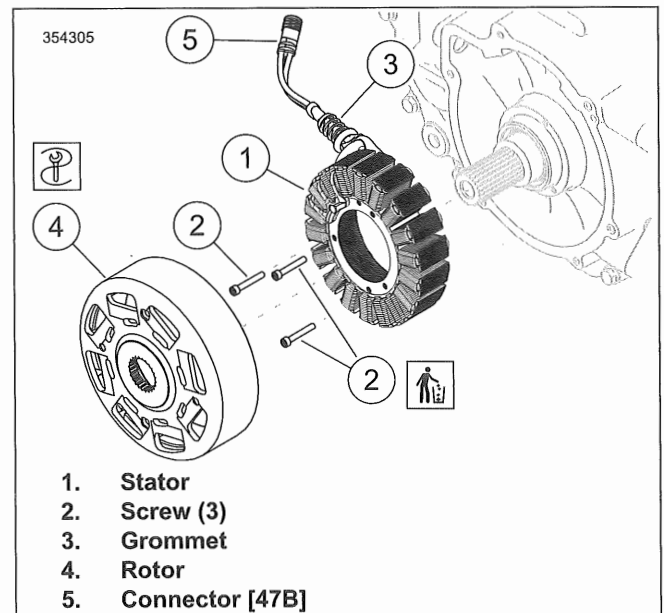

Figure 7-8. Rotor and Stator
2. See Figure 7-8. Secure stator to crankcase using **new** screws (2). Tighten to: